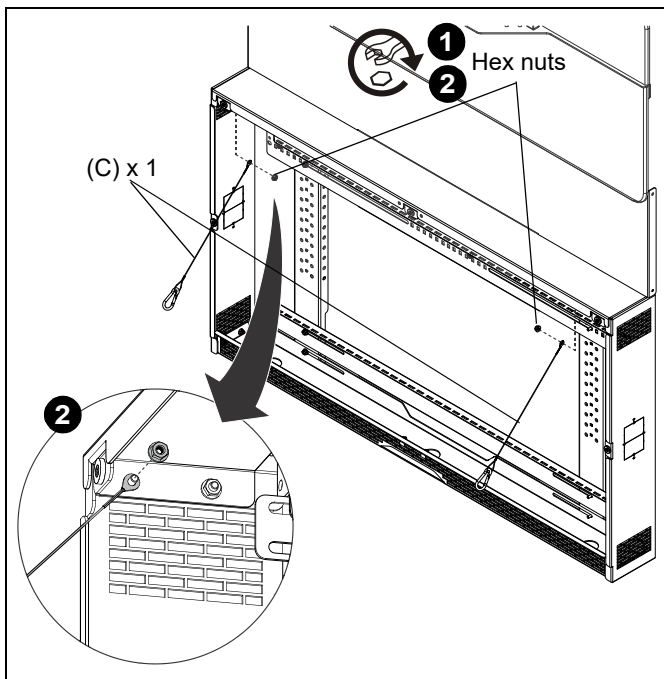

Figure 2
2. Insert the eyelets on the ends of the tethers (C) over the exposed screws and reinstall the hex nuts removed in Step 1. (See Figure 2)